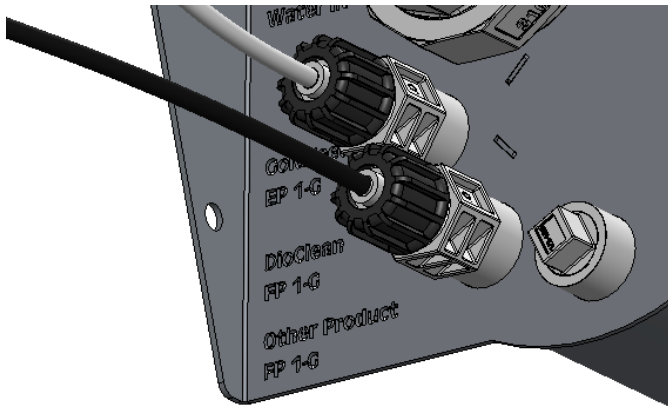

Figure 46.
9. Installation: Screw the injector onto the left side of the mixing tank at "DioClean FP 1-G". See Figure 46.
Take the white hose connected to the flow control and connect it to the left side of the mixing tank, on the injector marked "GoldFeed EP 1-G" (see Figure 46).